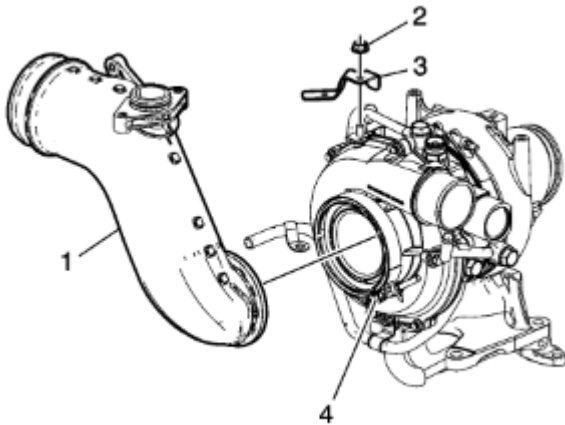

Fig. 111: Turbocharger air inlet adapter installation
- a. Install the turbocharger air inlet adapter bracket (item 3 in figure 111) and torque the bracket nut (item 3 in figure 111) to 89 in-lb. Install the turbocharger air inlet adapter (item 1 in figure 111) and loosely tighten the holding clamp.